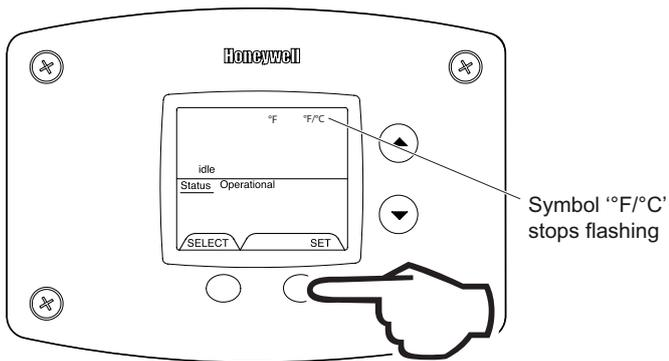

Fig. 35
- Press 'SET' button to confirm °F or °C format. F°/ °C will stop flashing. Setpoint display will appear in the format selected (°F or °C) in 10 seconds (Fig. 35).